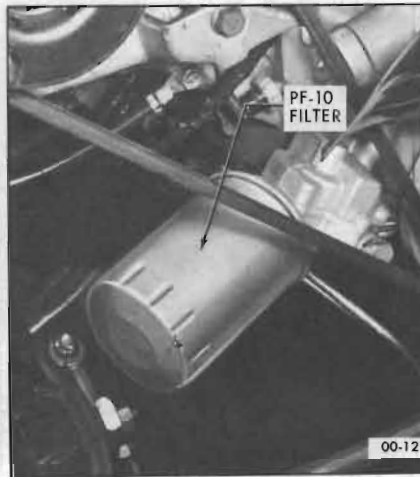

Figure 00-12—Oil Filter Installation
To change, screw filter off the filter base and discard. Wipe the gasket area of the base clean and install a new AC Type PF-10 filter or equivalent. Lubricate the gasket and screw the filter on the nipple until the gasket just touches the base; tighten filter 2/3 more. Start engine. Do not accelerate engine beyond the normal idle until oil pressure light goes out. Check the filter area for leaks after the engine has run for five (5) minutes. See Figure 00-12.